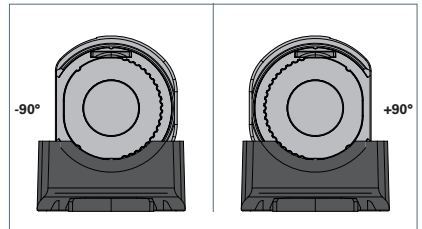

Fig. 5: Aligning the luminaire at -90° or +90°.
- ▶ Turn the luminaire to an angle of exactly -90° or +90°, see Fig. 5.